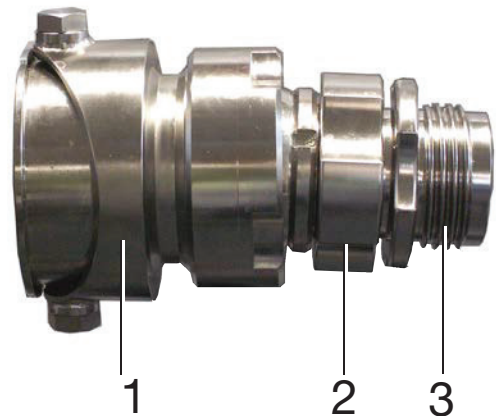

Fig. 3-11 1 Pivoting cross-piece/Twin turret
- Screw the coupling sleeve (3, Fig. 3-11) into the stuffer connection.
- Screw the connecting nut (2, Fig. 3-11) onto the coupling sleeve.
- The connecting nut (2, Fig. 3-11) must be on a level with the connecting piece of the stuffer.